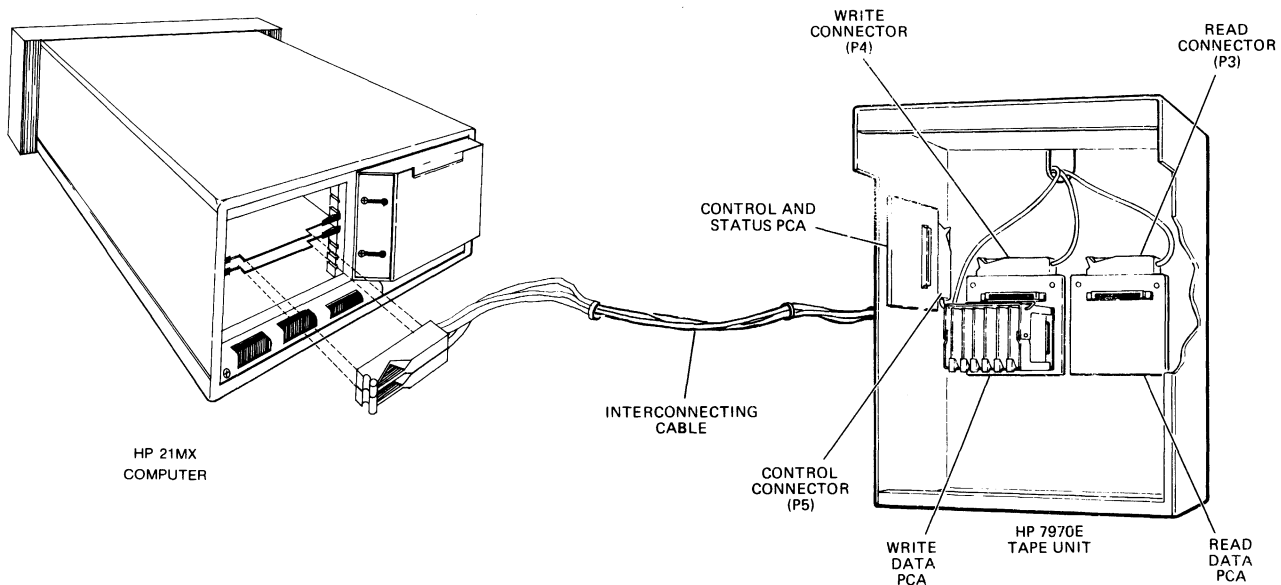

Figure 2-2. Interconnecting Cable Installation
- d. Route the interconnecting cable in the computer as shown in figure 2-2.
- f. Gain access to the tape unit interconnect facilities and route the interconnecting cable in the tape unit as shown in figure 2-2.